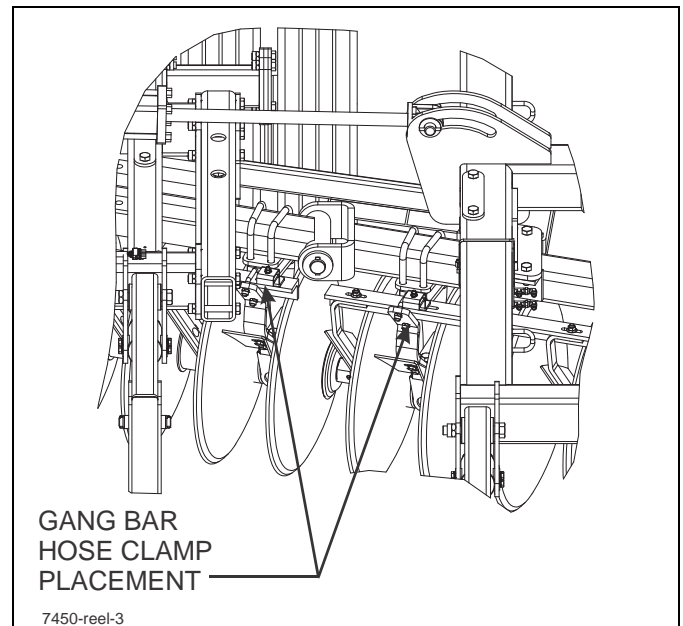

Figure 3-38: Gang Bar Hose Clamp Placement
12. Install hose clamp brackets as shown at hinge lines with 1/2-13x1-1/2 round head square neck bolts and nuts. Assemble hose clamp with 3/8-16 x 1-1/2 bolts and 3/8 flange lock nuts (**See Figure 3-38**.)